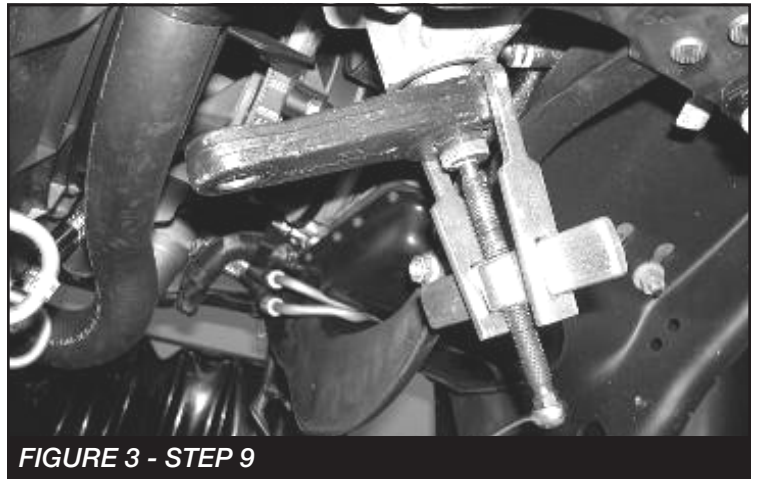

FIGURE 3 - STEP 9
9. Remove the factory pitman arm from the steering box using a large pitman arm puller or large two-jaw puller. Discard the hardware and the pitman arm. **SEE PHOTO BELOW. SEE FIGURE 3**